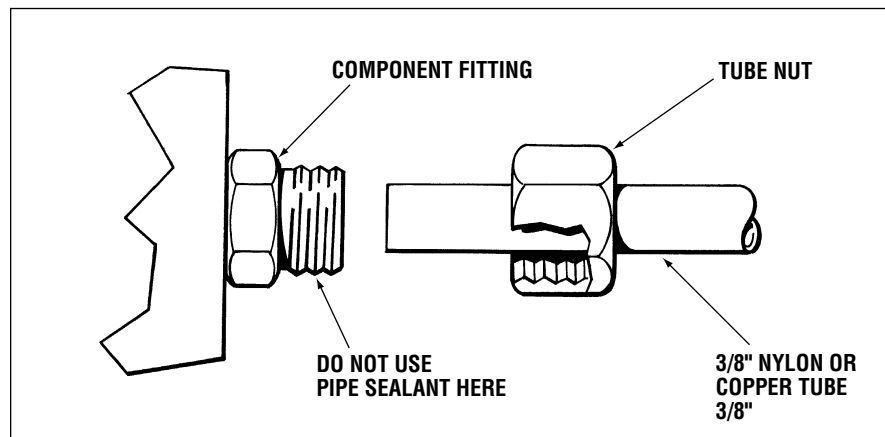

Figure 8. Connection to Helm Pump shown.
1. Refer to figure 8 on this page for hose/tube to fitting connection.